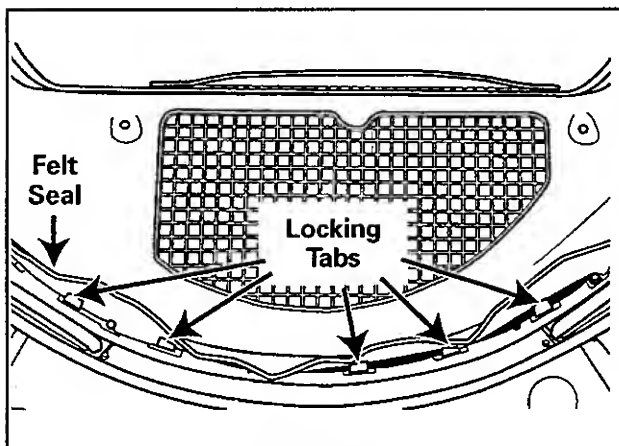

Figure 10-6
3. Remove the old felt seal by prying the locking tabs up with a flat blade screwdriver, (See Figure 10-6).